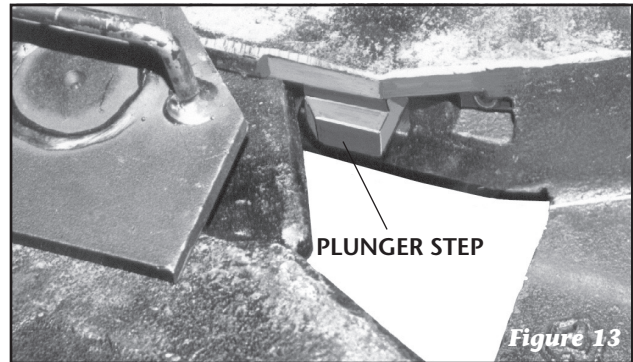

Figure 13
With the fifth wheel upright, it will function as follows: When the swinging lock (6) is open, the release handle (16) will be in; the plunger (17) will extend into the throat area such that the step in the plunger is visible in the throat, as shown in Figure 13, and the secondary lock release handle (18) will be out with the handle lug disengaged from the top plate casting.
As the swinging lock closes, the secondary lock spring will move the secondary lock into the closed position behind the swinging lock and move the release handle inward. When properly locked, the locking plunger (17) will be visible as shown in Figure 13.